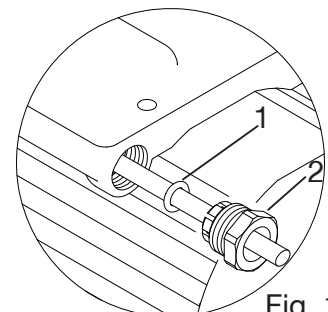

Fig. 10
To enable correct assembly of the cable gland the 'O'-ring (Fig. 10 item 1) must be placed over the cable before the clamping insert (Fig. 10 item 2) can be tightened.